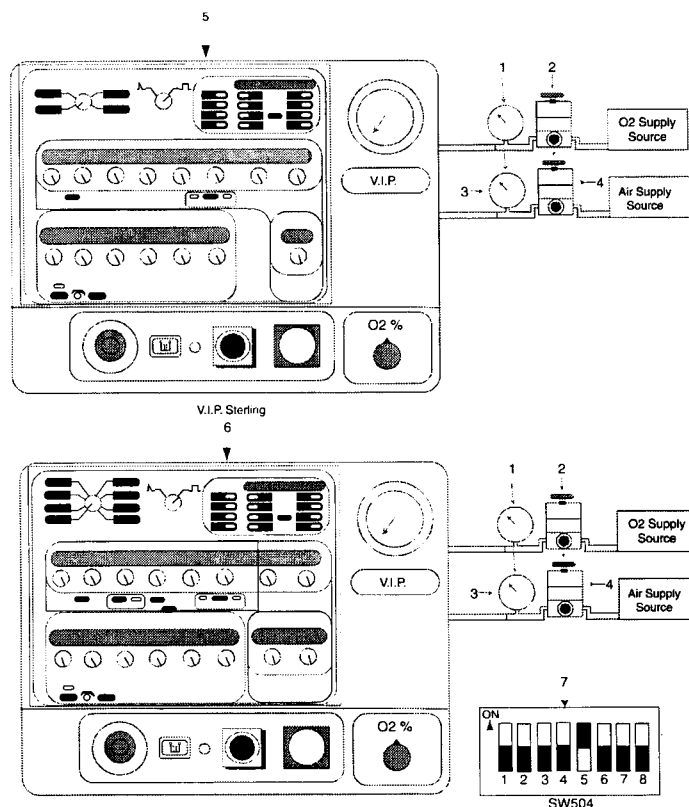

Figure 2.1 VIP Gold &amp; Sterling set-up
3. Locate dip switch SW504 on the Main PC Board. Turn switch 6 & 7 to the OFF position (See Test Figure 2.1).